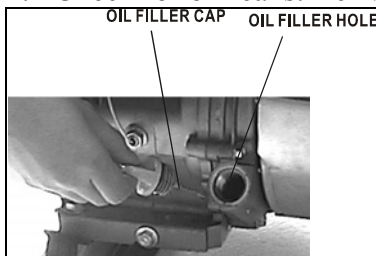

Figure 2- Unscrewing the oil cap
2. Remove the oil filler/dipstick cap from the engine as shown in figure 2.